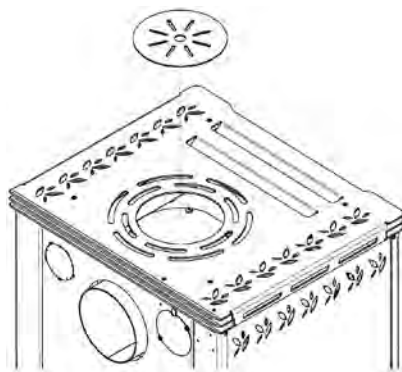

Fig. 6
The ARTE® wood stove give you the opportunity to work with internal or external air (Apollo kit for external AIR, Fig. 6)
- > Put the metallic cover on the top hole (Fig. 6)